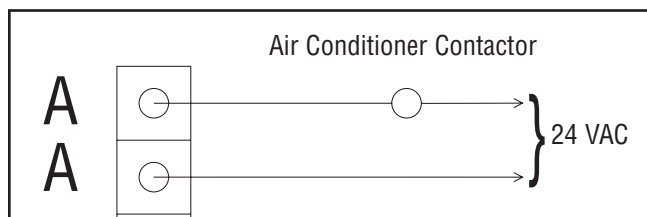

Figure 5 — Terminals "A-A"
2. Terminals "A-A" on control module are rated for 24 VAC and air conditioner contactor control. Contacts are connected in series with the air conditioner contactor control circuit (Figure 5).